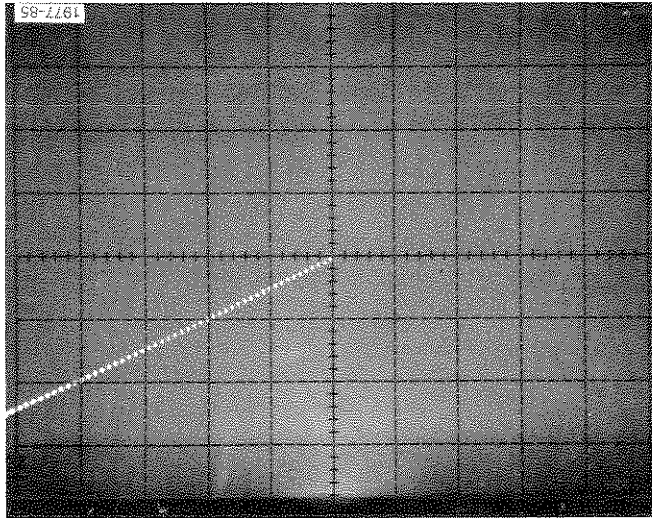

Fig. H-6. Typical display of mirror gain measurement.
with the mirror current at 200  $\mu\text{A}$  (i.e., 40 steps at 5  $\mu\text{A}/\text{step}$ , see Fig. H-6).
a. Adjust the -SUPPLY control clockwise to put the display off screen. Then turn the -SUPPLY control counterclockwise until the display start is at graticule center horizontally and vertically (see Fig. H-6). The -SUPPLY control must not be less than 1/4 turn clockwise from the detent.